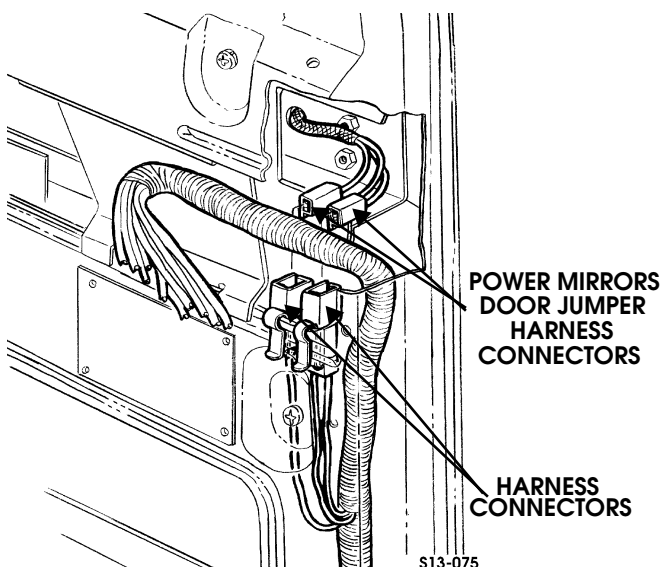

Figure 2-120: Power Mirrors Door Jumper Harness
10. Disconnect two harness connectors from power mirrors door jumper harness connectors (Figure 2-120).
11. Remove self-tapping screw and clamp securing harness to door reinforcement (Figure 2-120).
1. Route harness through harness mounting bracket, mounting bracket bushing, and door bushing (Figure 2-120).